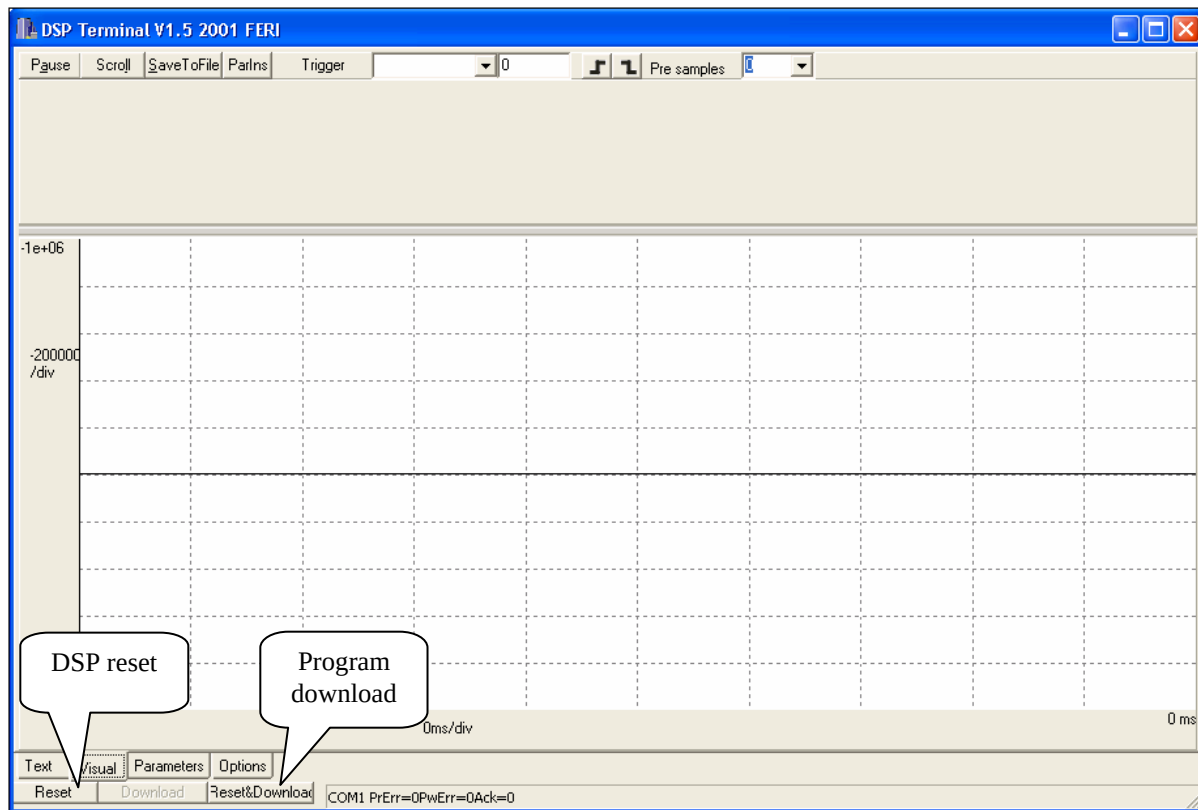

Figure 10: DSP Terminal – Options page
Now you must run the *DSP Terminal* (the shortcut is located on the desktop) to download generated code to DSP-2 controller. In *DSP Terminal Options page (1)* (Figure 10) you can navigate to directory in which the generated code is located. Note that generated code appears with extension *.hex*. Select appropriate file and press *Download* button to download code to DSP-2 controller. If the download is not possible, first reset the DSP-2 controller with *Reset* button.